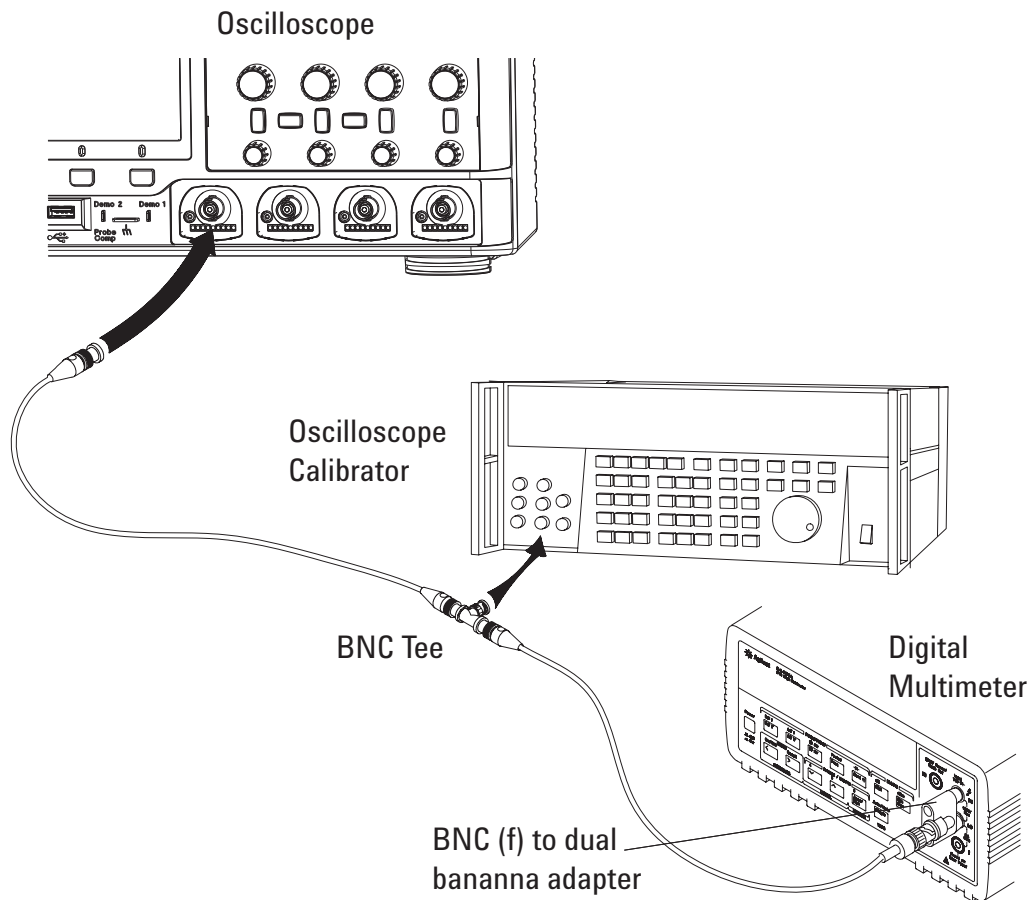

Figure 5 Setting up Equipment for Dual Cursor Accuracy Test
- 4 Use the BNC tee and cables to connect the oscilloscope calibrator /power supply to both the oscilloscope and the multimeter (see Figure 5).